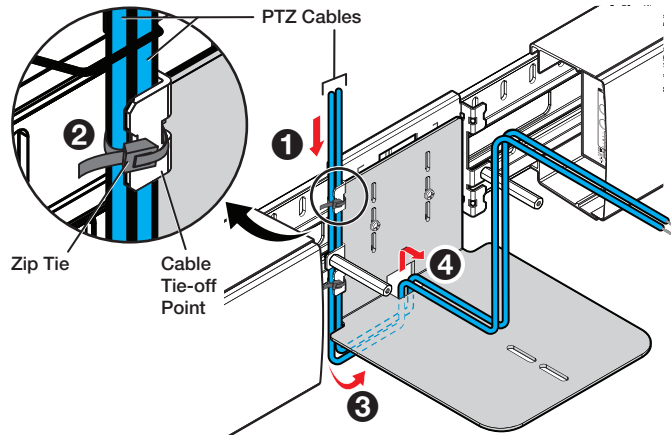

Figure 27. Routing the PTZ Camera Cable
- a. Route the PTZ cable to the PTZ camera through the center section cover (figure 27, ①) and along a center bracket cable tie-off point (②).
- c. Route the cable to the camera shelf (③).
- d. Route the cable through the access hole at the rear of the camera shelf (④).